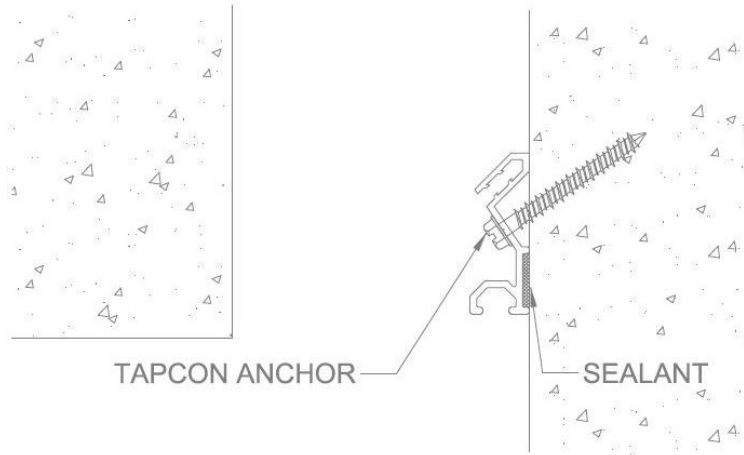

FIGURE 2
2. Apply a bead of sealant (by others) into the wall extrusion channel as shown. Attach the aluminum extrusions to the concrete wall using $\text{Ø}3/16$ " Tapcon anchors. For other substrates, use appropriate fasteners and methods. Extrusion should be flush to substrate to ensure a weathertight seal. **See Figure 2.**